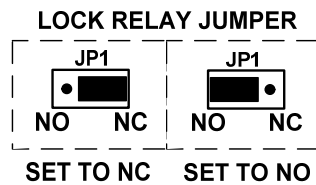

Figure 4
The CCM-1 lock relay output function can be set to operate either normally open (NO) or normally closed (NC) depending on the position of jumper "JP1" (see Figure 4). For fail secure lock operations the jumper must be in the "NO" position, for fail safe operation it must be set in the "NC" position.